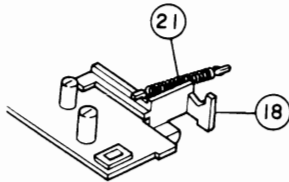

Figure 9
**(F) Removal of Lifter Arm (18)**
1. Remove spring A (21) as shown in Figure 9.